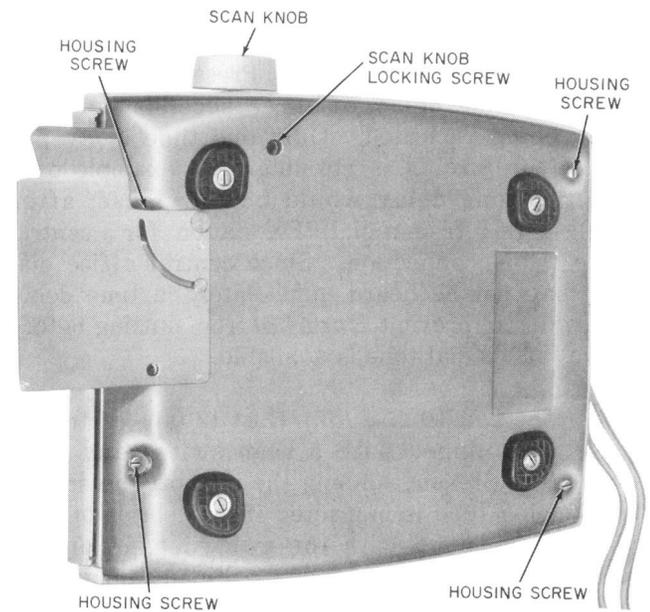

Fig. 6—*Rapidial* (Bottom View)
(1) Place housing on *Rapidial*, (after removing fill washers at scan knob opening in housing, if provided). Position front portion of housing first; then lower into place.
(2) Invert *Rapidial*, place the four housing screws into holes provided in base, and tighten (Fig. 6).
(3) With *Rapidial* inverted, inserted scan knob into position, making certain it properly engages tape assembly (Fig. 6).
(4) To lock scan knob to tape assembly, insert locking screw through hole provided in base and tighten (Fig. 6).
- (1) Connect to power outlet.
- (2) Position *Rapidial* upside down. (Be sure to protect cover from scratches.)
- (3) Start bar adjustment screw can be reached through base of *Rapidial* by aligning hole in the instruction card with hole in base (Fig. 6).
- (4) Using a 3-1/2 inch screwdriver, turn screw clockwise and revolve scan knob until a clicking sound is heard.
- (5) Back off on screw approximately one to one and a half turns so that clicking sound disappears. On power driven scan model, also check that scan switch is free in both directions.
- Invert **Rapidial**, loosen scan knob locking screw, and remove scan knob (Fig. 6).